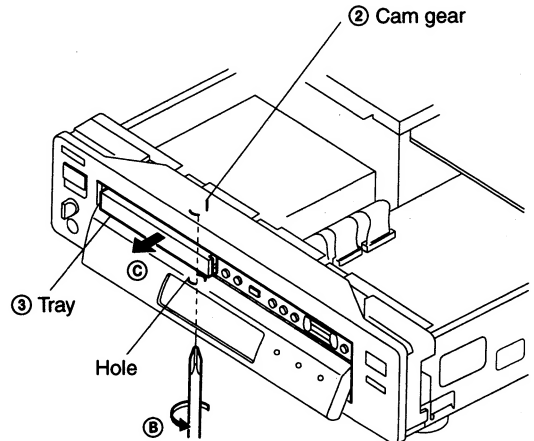

Fig. 2
- 1) Insert a cross-tip screwdriver into a hole at the bottom, and rotate the cam gear ② in direction ②. (See Fig. 2)
- 2) Draw out the tray ③ in direction ③ by hand, and remove a disk. (See Fig.2)